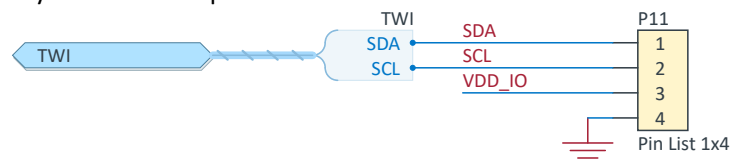

Figure 10: TWI schematic
**VDDIO** is shown in Figure 10: TWI schematic on page 18.